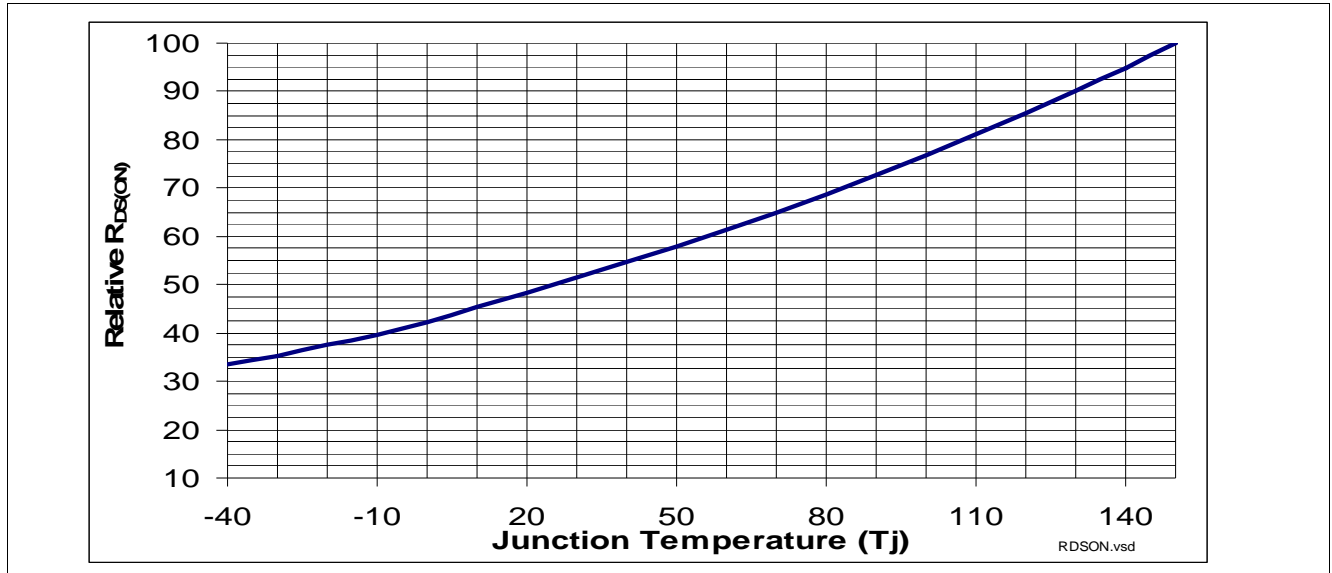

Figure 36 Relative $R_{DS(ON)}$, Function of Junction Temperature T_J , base 100 at 150°C
The $R_{DS(ON)}$ of PROFET™ +24V can be described as a function of temperature (expressed in °C) See Equation (6). Figure 36 provides the derating of $R_{DS(ON)}$, assuming 100% at maximum junction temperature.